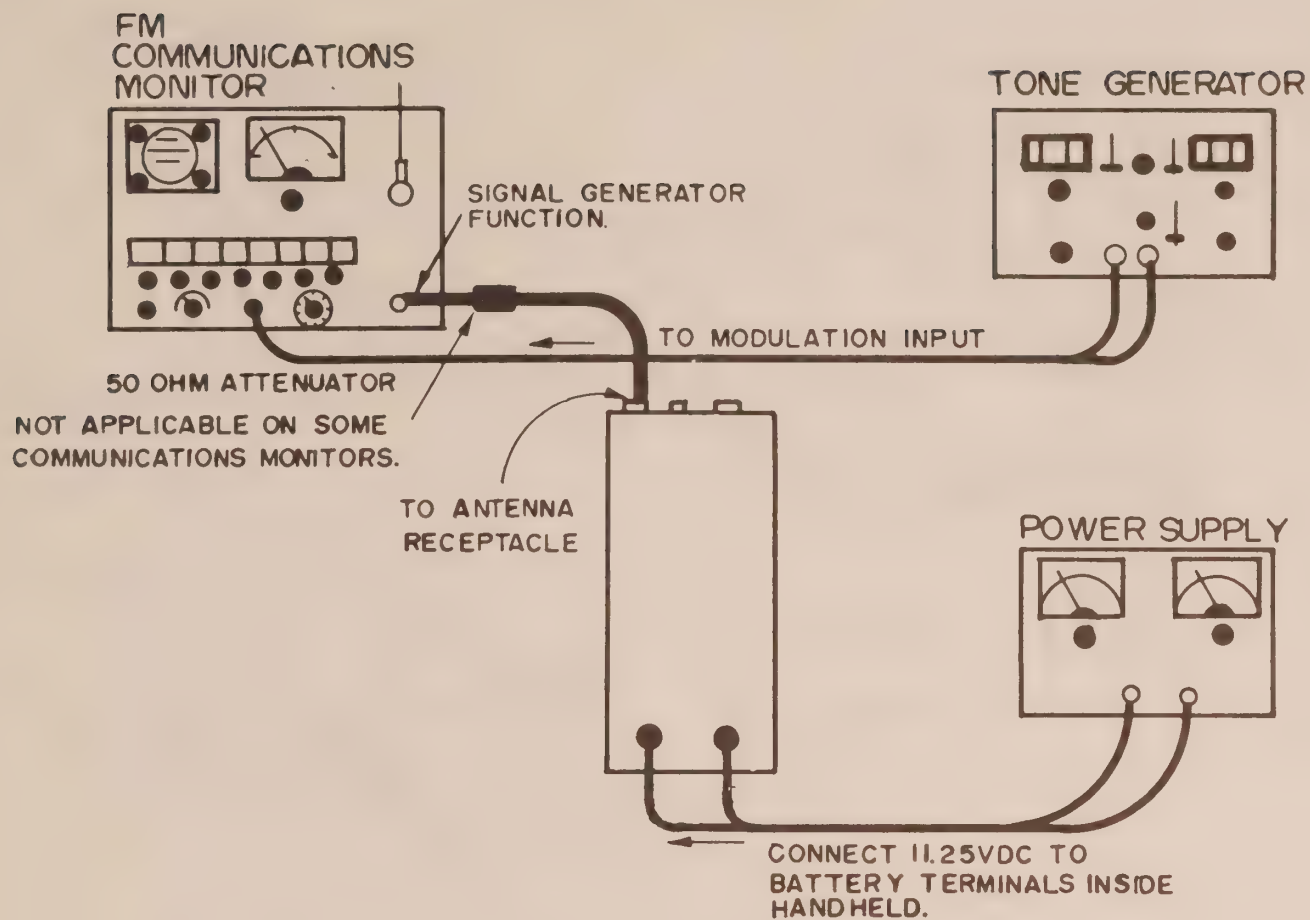

FIGURE 5. 734LC RX TEST SET-UP
1. Connect test equipment as shown in Figure 5.